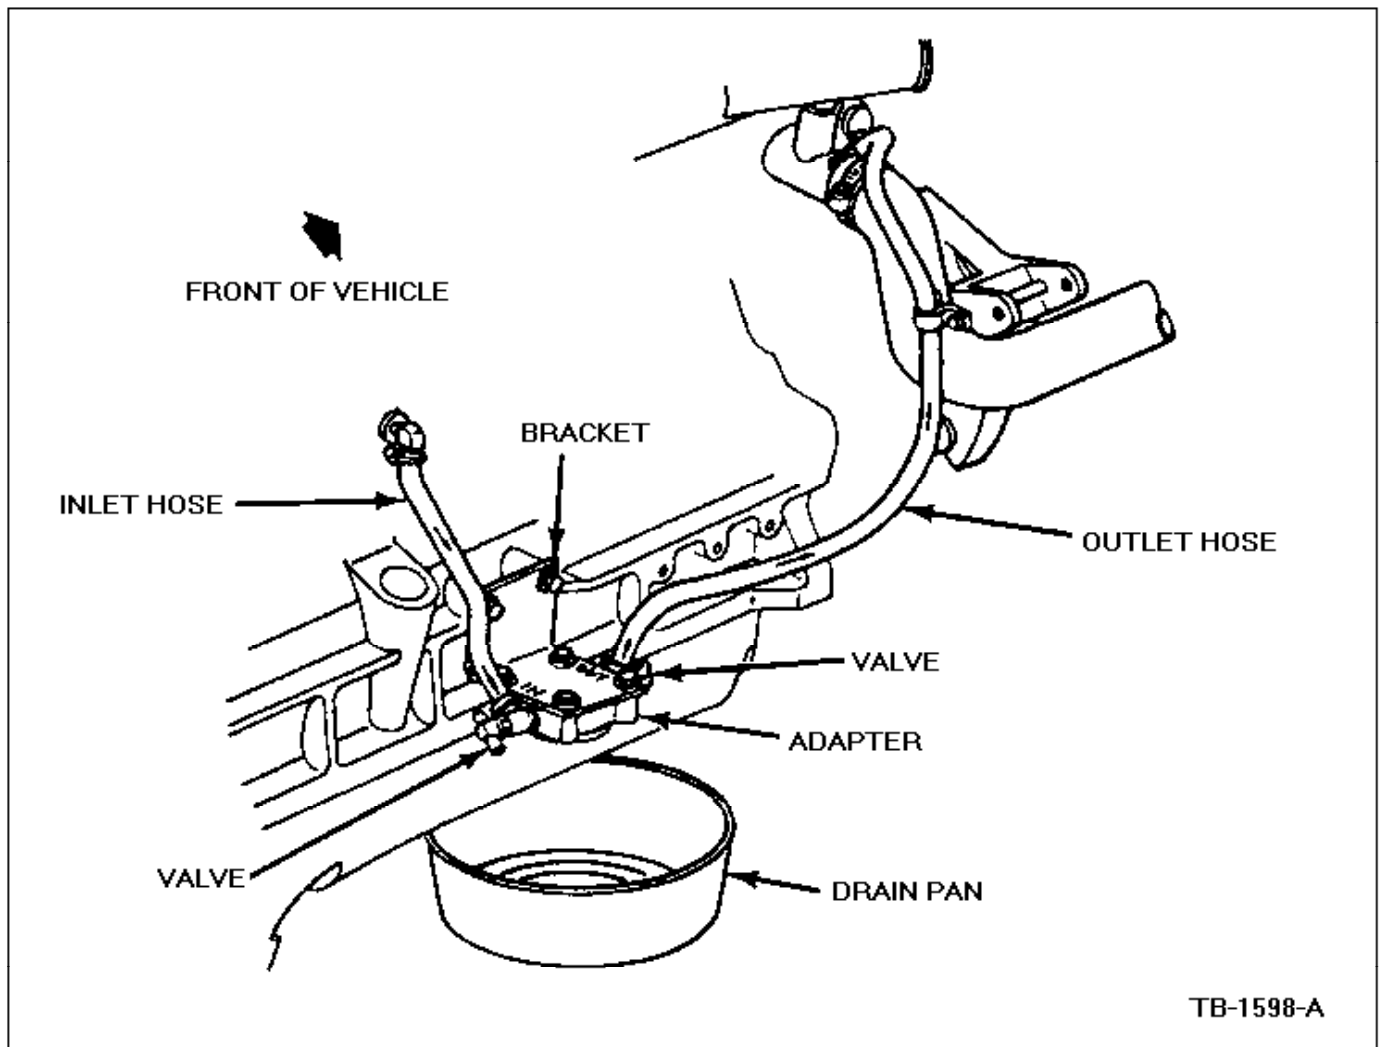

Figure 1 - Article 90-7-24
2. Place a drain pan beneath the adapter as shown in Figure 1.